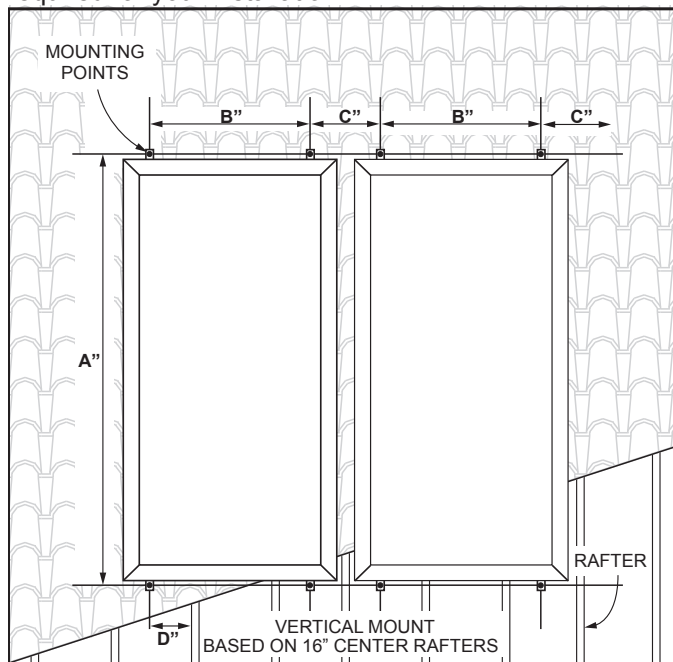
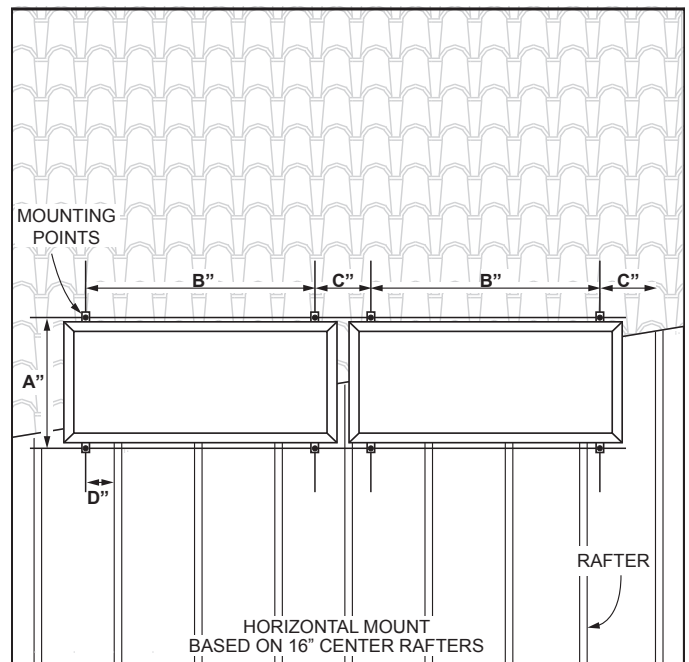

Figure 1.
Figure 2.
1. Locate the mounting points for the mounting brackets per Figure 1 for vertical mounting or Figure 2 for horizontal mounting and Table 1. Layout the roof as specified.